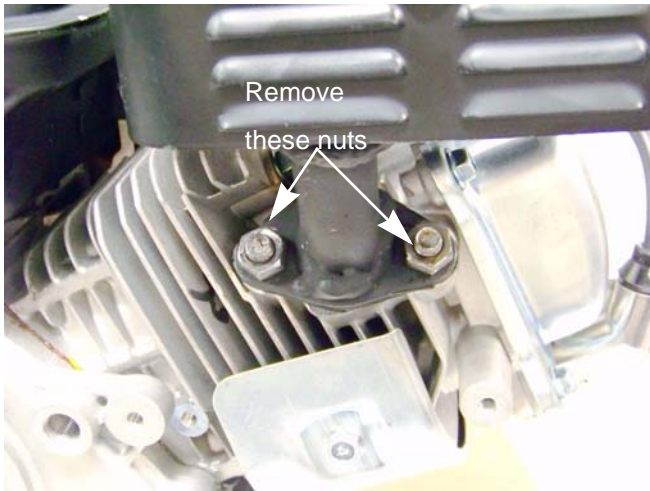

Figure 8.4
1. Remove the two muffler nuts using a 13mm wrench. See Figure 8.4.